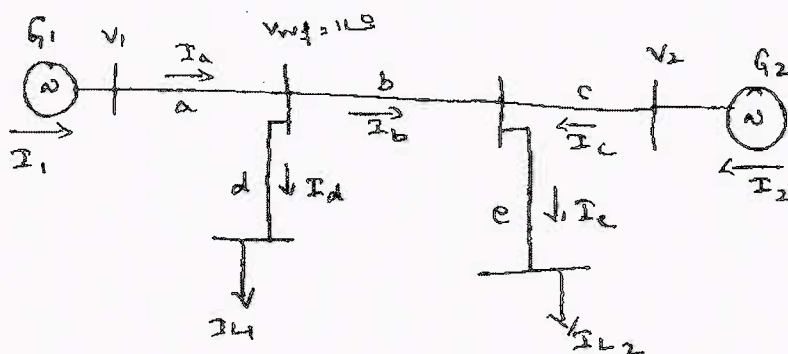

Fig.Q6(b)
b. Calculate the loss co-efficient in p.u and MW^{-1} on a base of SOMUA for the network of Fig.Q6(b) below.